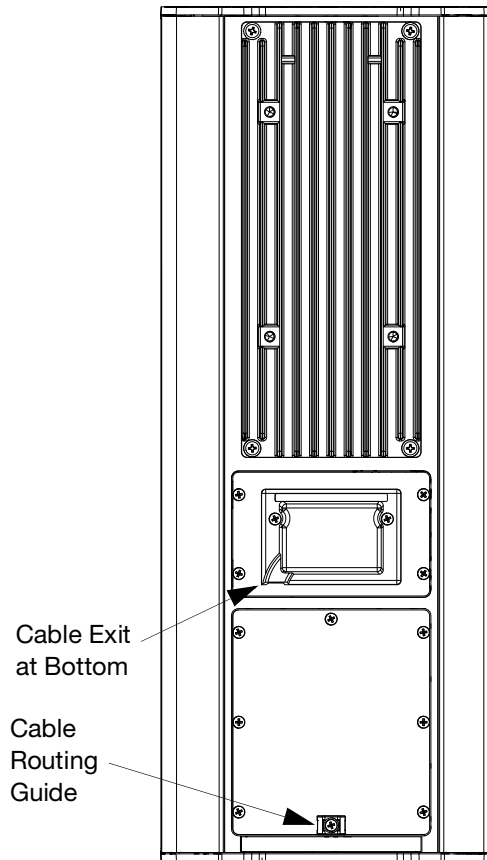
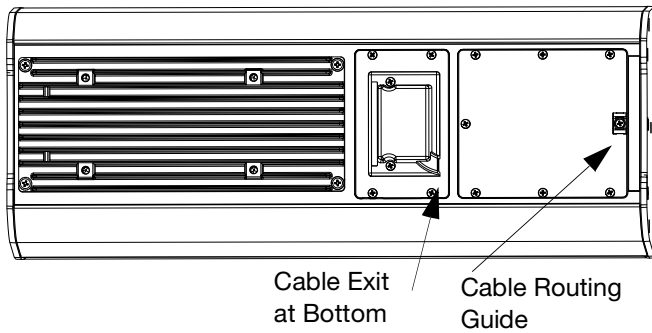

Figure 39: Only Permissible Vertical Orientation
Figure 40: Only Permissible Horizontal Orientation
**CAUTION:** When mounting the loudspeaker, ensure that the cables will exit from the bottom of the loudspeaker when the rain hood is installed. There is only one permissible vertical orientation (Figure 39) and one permissible horizontal orientation (Figure 40 on page 33).